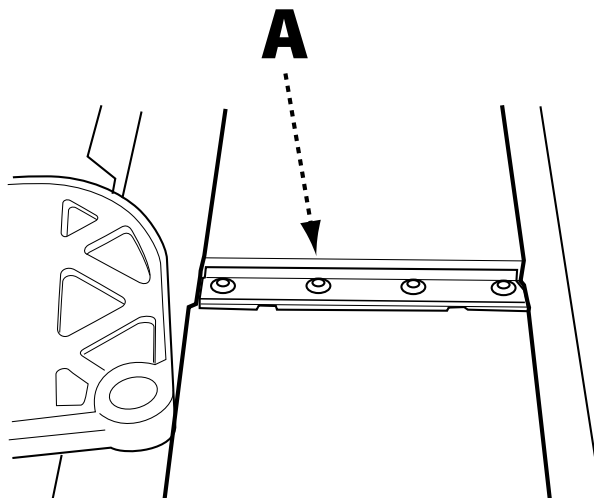

FIGURE 19
2. Carefully and slowly rotate the cutterhead by hand until the clamp bar and four clamp screws (A) are accessible. See Figure 19.
10. Perform final tightening on each of the four clamp screws using the proscribed sequence in Figure 19.